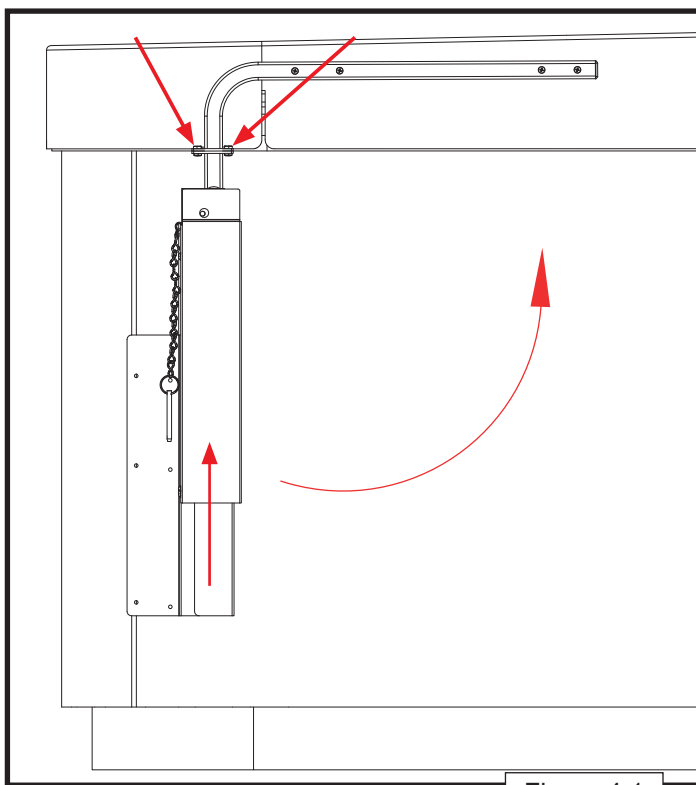

Figure 4.1
NOTE Loosen Adjusting Bracket before beginning procedure (Figure 4.1).
1. Slide Right Assy. into closed position and raise it until it is horizontal and flushed against spa cabinet (Figure 4.1).